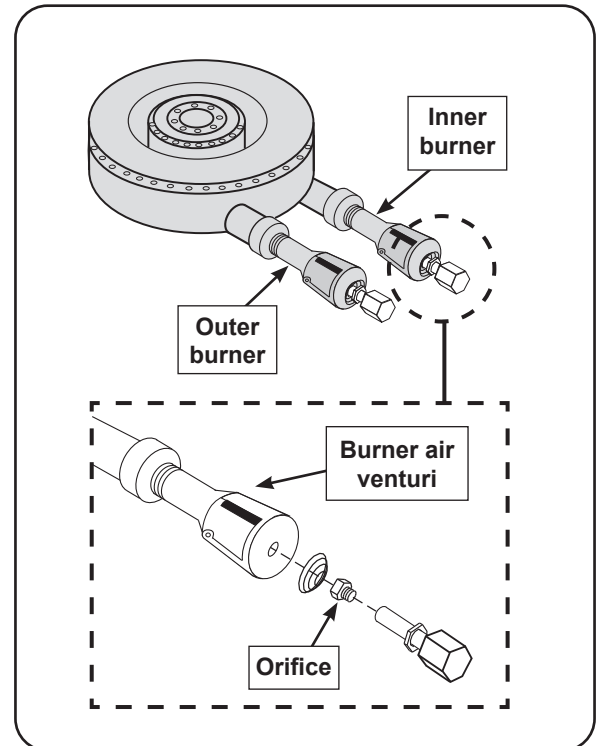

Fig. 36-1 Burner air shutter / orifice orientation
2. Locate the orifices. The orifice size is stamped on each orifice face (see Fig. 36-1).